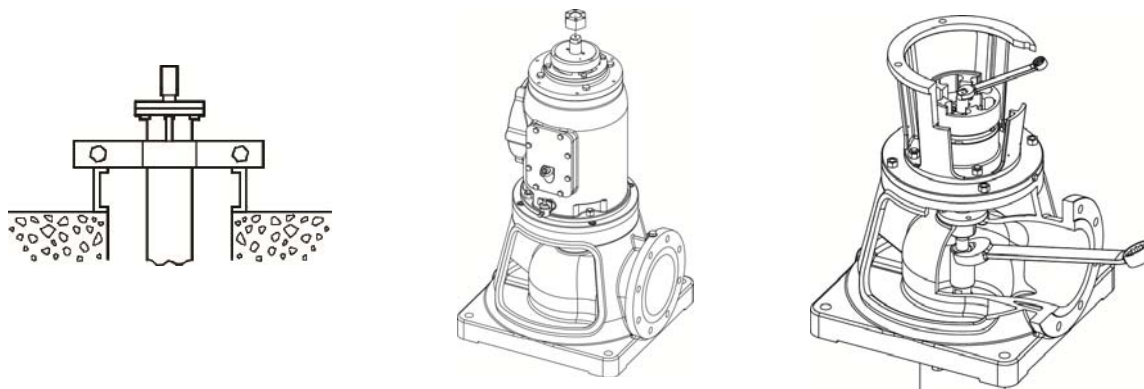

Figure 9
- Apply a thin layer of grease to the thread on the lower end of the shaft of the head (thread is situated in the delivery duct of the drive head - fig. 9).
- Unscrew the regulating nut and remove from its shaft (fig. 9).
- Screw as far as possible, turning the spanner placed on the upper part of the head shaft (fig. 9).